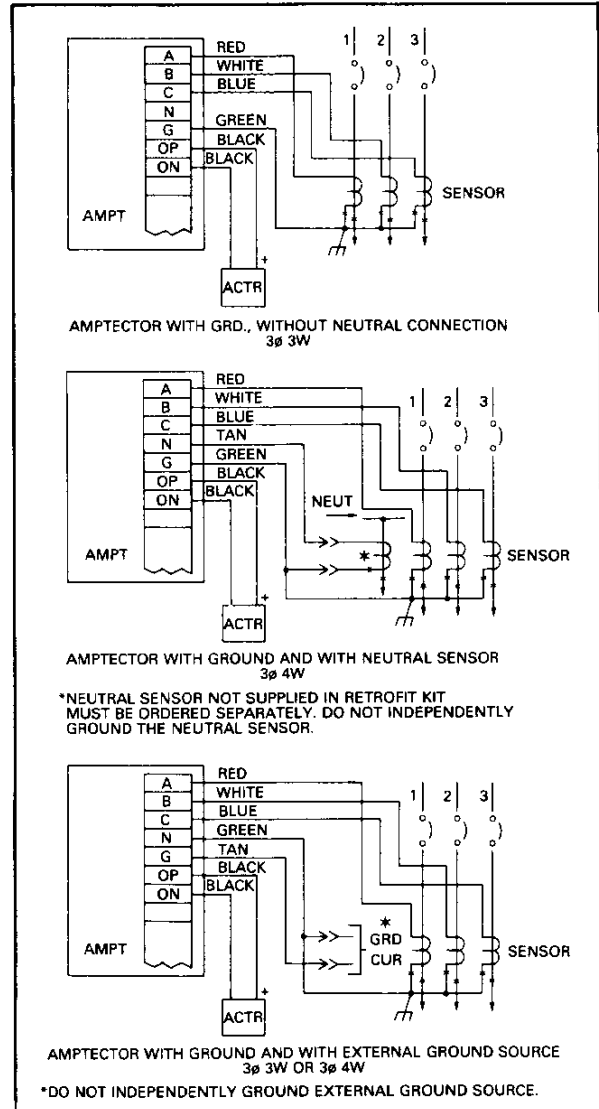

Fig. 9
All the Amprectors IA in retrofit kits are supplied with a ground element. The ground fault protection is provided by energizing this element with the residual of the currents (from the three properly polarized phase sensors in a 3-phase 3-wire system, or from the three phase sensors plus a neutral sensor in a 3-phase 4-wire system, or from a separate ground current sensor.) The Amprector IA can also be wired so that there is no ground fault protection (see Fig. 9).
1. Acquaint yourself with the wiring scheme, Fig. 9.